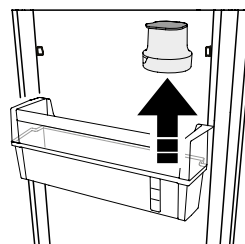

Fig 4
- Remove the filter from the balcony (**Fig. 4**)